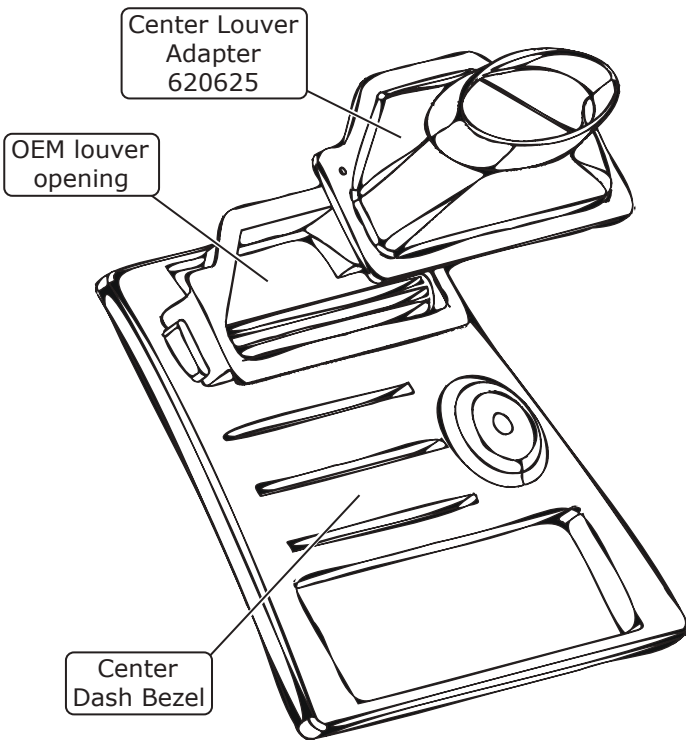

Figure 1
1. With the supplied center louver adapter, place the adapter over the OEM rear center louver opening. Using the pre-drilled holes from the adapter, mark the holes onto the OEM rear center louver opening (See Figure 1 and 2, below).
3. With the (2) supplied #8 x 3/4" wide head screws, secure the adapter to the OEM center dash bezel.